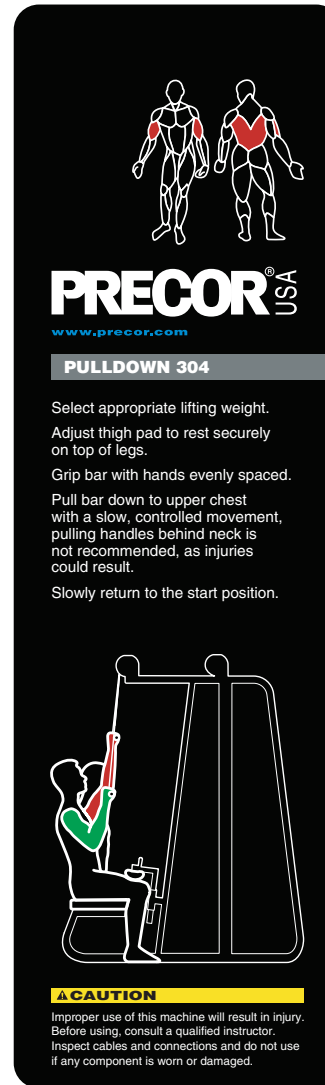

Figure 3: Sample user instruction placard
Figure 3 shows a typical user instruction placard.
- Check the cable termination at the weight stack. For most equipment, the exposed shank can be no more than 1 ¼ inches (32mm); this distance ensures a minimum of 7 turns of the bolt into the selector stem (refer to Figure 3 earlier). Check and adjust the distance accordingly. *Also ensure that the locking jam nut is tight against the selector stem.*